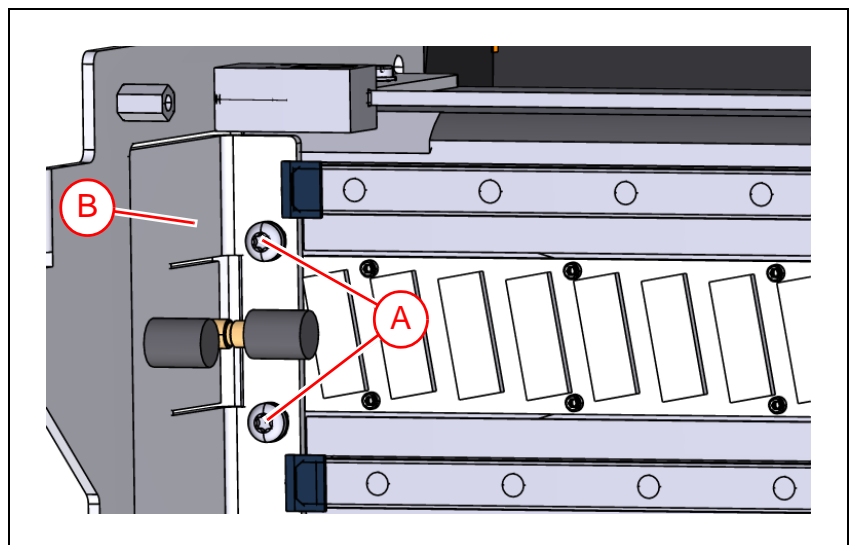

Figure 5-19. Removing the end stop plate.
6. Loosen the two screws ('A' in Figure 5-19) that attach the end stop plate ('B') to the X beam.